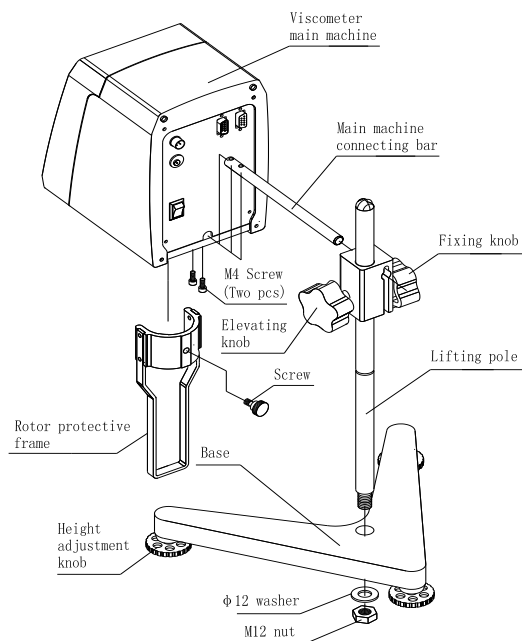

Fig. 1
1. Take out the base, lifting pole, viscometer main machine, main machine connecting bar, and power supply adapter, etc. As shown in Fig. 1, insert the lifting pole into the base hole and tighten by the nut (**notice: the lifting knob is at the right**), remove the screw from the main machine connecting bar, insert it into the installing hole at the back and bottom of the main machine, and then tightly fix the main machine connecting bar to the base with the hexagonal screw removed. Finally, insert the main machine with the well fixed connecting bar into the installing hole of the elevating slider, and tighten the fixing knob at the calibrated position.